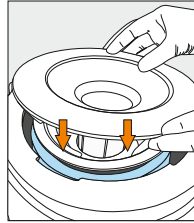
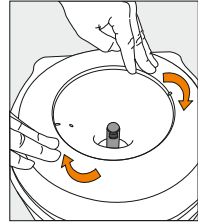

Figure 41
Figure 42
3. Install the Outer DryGuard™ Cover onto the cooler in the proper position on the body and lock into place by turning clockwise until it fits tightly (Figure 41 and Figure 42).